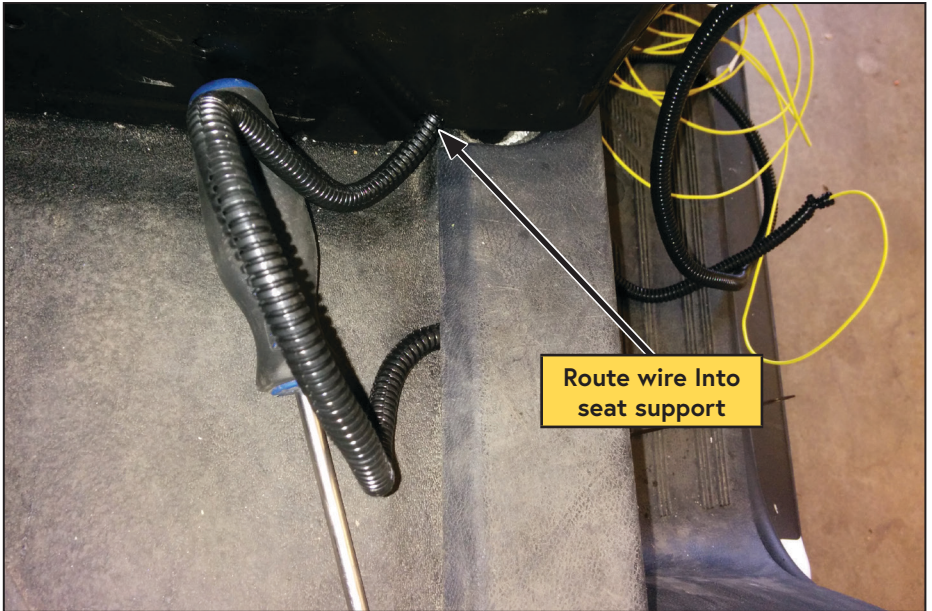

Figure 56 — Driver side seat support
- Route the loomed wires through the gap in the driver side seat support (Figure 56).